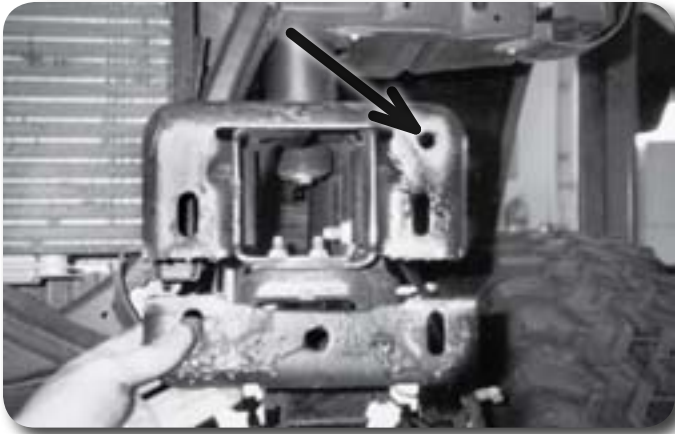

Figure 8
39. The frame horn must be trimmed to provide clearance for the lifted bumper. Cut off the bottom of the frame bumper brackets **Figure 8**. Use the lower edge of the bracket opening as a guide.
41. Remove the bracket from the frame and drill a 1/2" hole in the frame at the mark **Figure 8**.